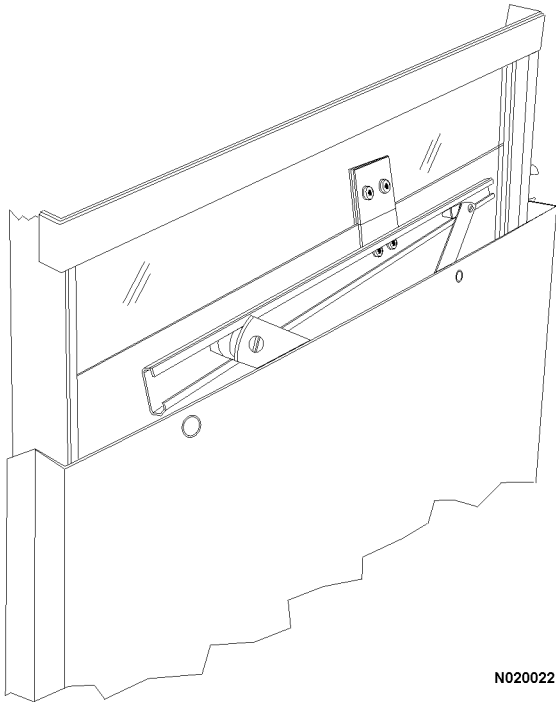

FIGURE 2-7.
- f. Carefully lower the door panel a few inches. Hold the glass at the top to prevent it from dropping. Slide the door panel toward the cab to disengage the window regulator roller (Figure 2-7) from the track on the bottom of the glass. Slide the panel away from the cab to disengage the other top roller and lower roller from its tracks. Place the panel out of the way after removal.
5. Carefully lower the door panel a few inches. Secure the glass with duct tape at the top to prevent it from dropping. Slide the door panel toward the cab to disengage the window regulator roller (Figure 2-7) from the track on the bottom of the glass. Slide the panel away from the cab to disengage the other top roller and lower roller from its tracks.
19. Install the window regulator track bracket as shown in Figure 2-7. Ensure that the nylon bushings and gaskets are installed properly to prevent damage to the glass.